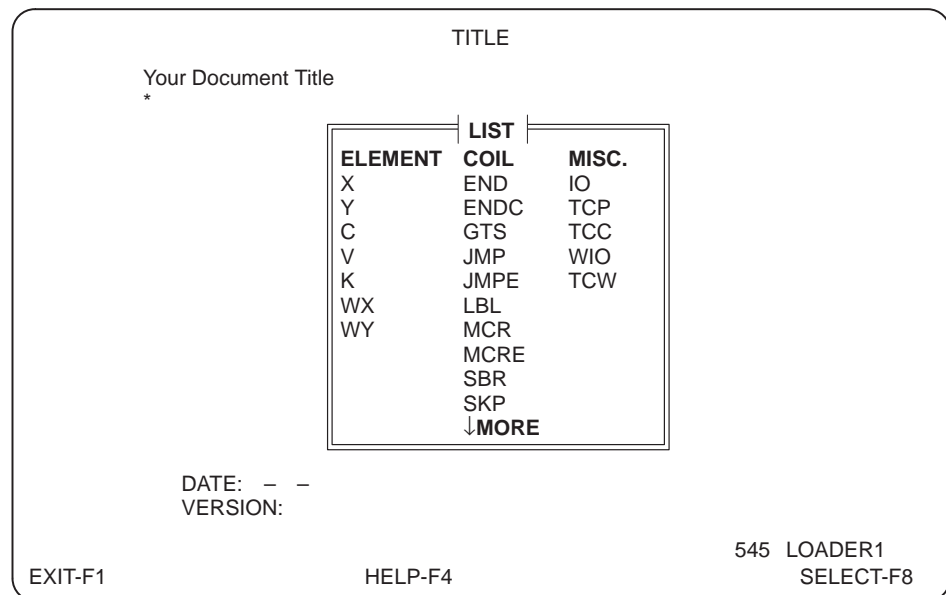

Figure 9-7 Synonym Pop-up Element List
1. Press **[V]** or **Shift [?]** to display a full listing of elements that may be selected. See Figure 9-7.